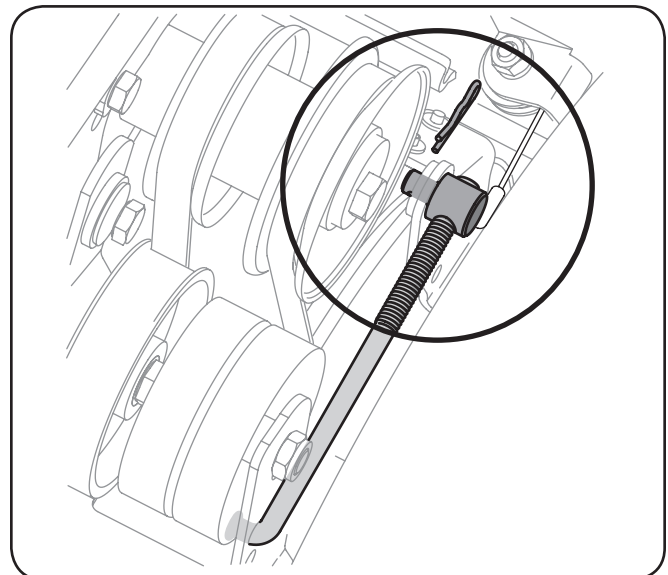

Figure 8-4
4. Remove the hairpin clip and flat washer from the ferrule in order to disconnect the auger idler rod from the brake bracket assembly. See Fig. 8-4.